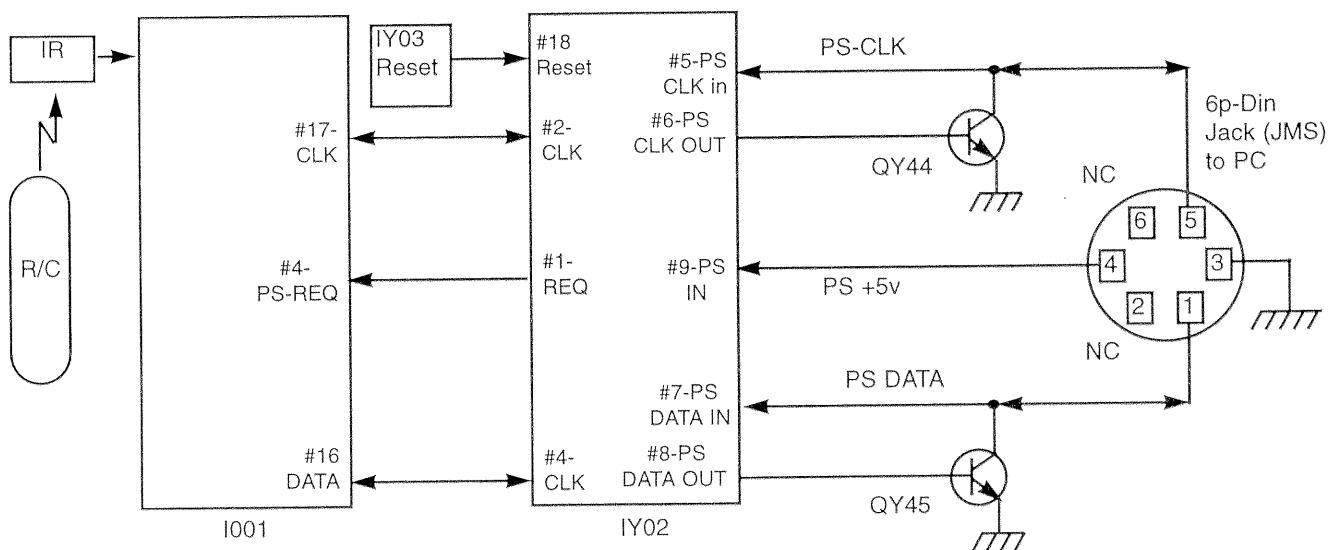

Fig. 5.1 SYSTEM BLOCK DIAGRAM
5. PC-MOUSE Microcomputer IY02 (M37470M4) (see Fig. 5.1 and 5.2)